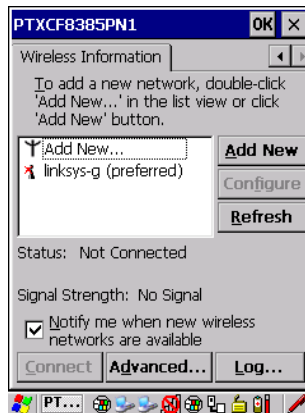

Figure 2.4 Wireless Information Tab
- Tap on the **Advanced** button in the *Wireless Information* tab. (see Figure 2.4 on page 19).